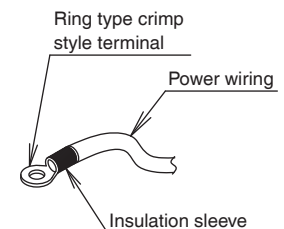

Fig. 5
- Be sure to use ring type crimp style terminals (field supply) for connection. Also, insulate the crimping part by installing an insulation sleeve (field supply). (Refer to Fig. 5)